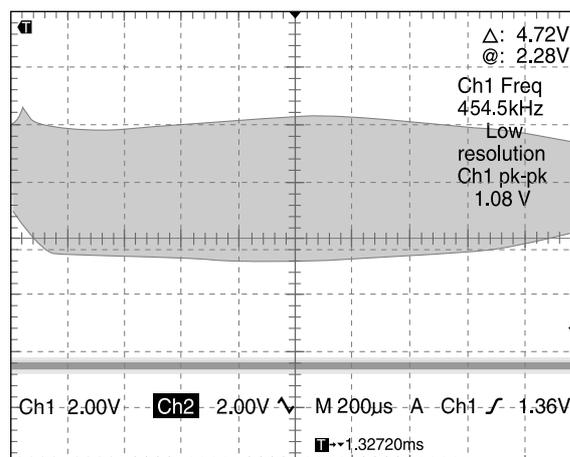

Fig. 13
- Fix screw E when the waveform becomes sharp as shown in Figure 13.